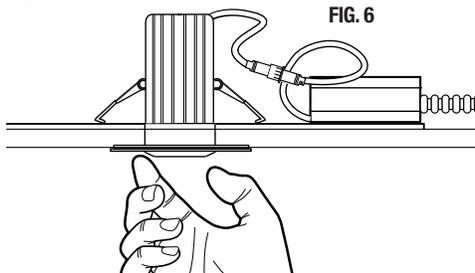

FIG. 6
4. MOUNT FIXTURE: Find power supply cable and connect to downlight. Install fixture per instructions specific to each fixture. (FIG. 6).